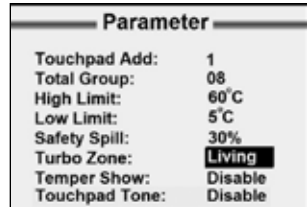

Figure 7.
- Select desired group by pressing or button (Figure 7).